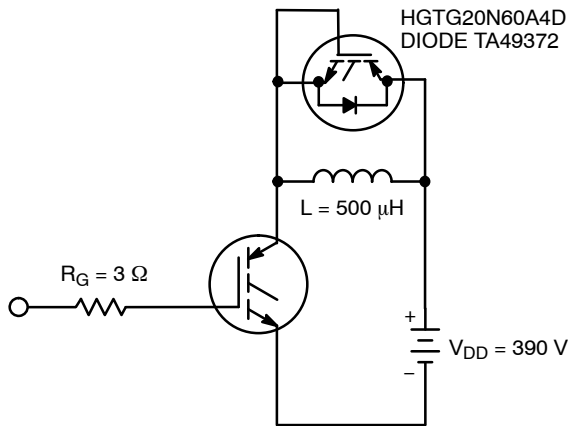

Figure 20. Inductive Switching Test Circuit
- Values for two Turn-On loss conditions are shown for the convenience of the circuit designer. E_{ON1} is the turn-on loss of the IGBT only. E_{ON2} is the turn-on loss when a typical diode is used in the test circuit and the diode is at the same T_J as the IGBT. The diode type is specified in Figure 20.